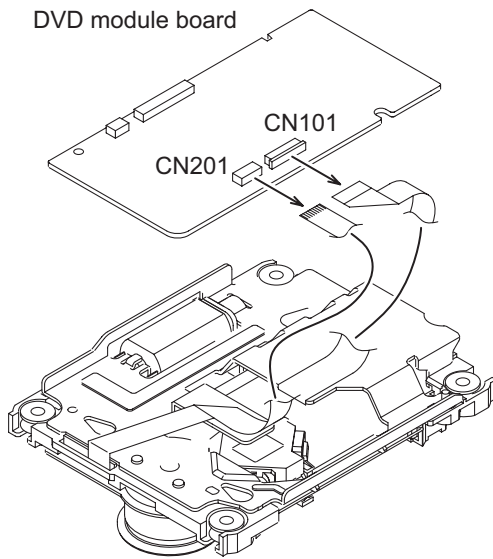

Fig.6
(6) Disconnect the card wire from CN101 and CN201 on the DVD module board. (See Fig. 6)